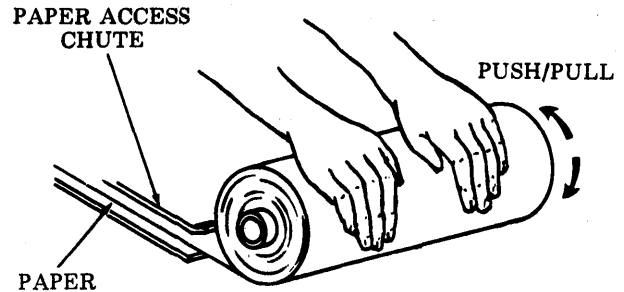

Fig. 49—Rotating Paper Roll
9.04 Rotate paper roll as shown to feed paper through printer. It will be necessary to push and pull paper roll slightly. Use both hands on paper roll for even pressure on paper (Fig. 49).